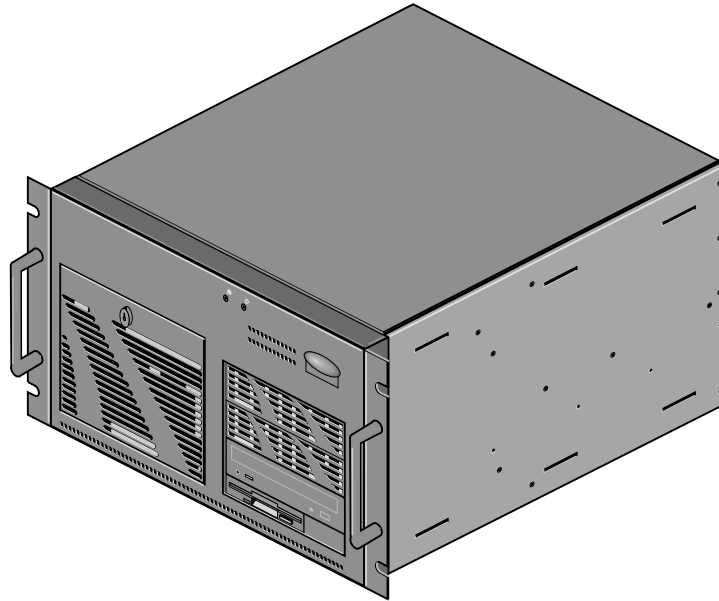

Figure 2 System with Handle Brackets and Handles Attached
5. Place a handle bracket against the side of the front panel (see Figure 2 on page 3). Make sure the holes in the bracket align with the holes in the side of the front panel. Also make sure the bracket is flush with the front panel.